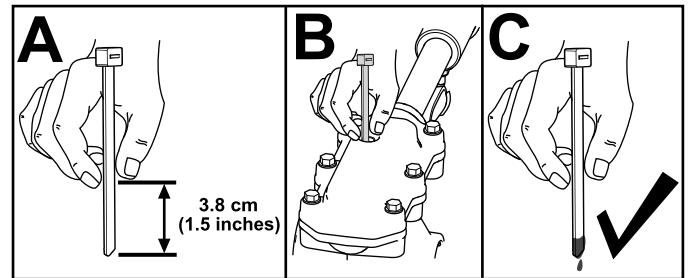

Figure 29
3. Check the oil level using a suitable measuring device, such as a clean cable tie. The oil should be approximately 3.8 cm (1.5 inches) below the filler opening (Figure 29).